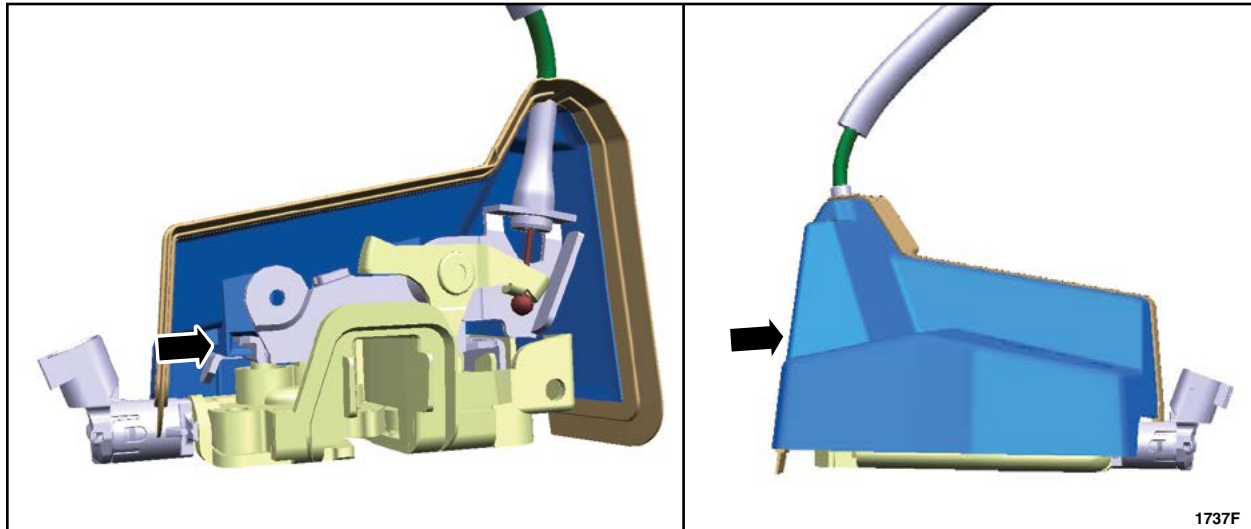

FIGURE 33
NOTE: If the vehicle has previously had a rear lower door latch replaced, it may already have the latest level door latch water shield installed. If the Super Cab rear lower door latch has a large water shield installed as shown in Figure 33, then installation of a new water shield is not required.
8. Install a *new* door latch water shield onto the lower rear door latch. See Figure 33.